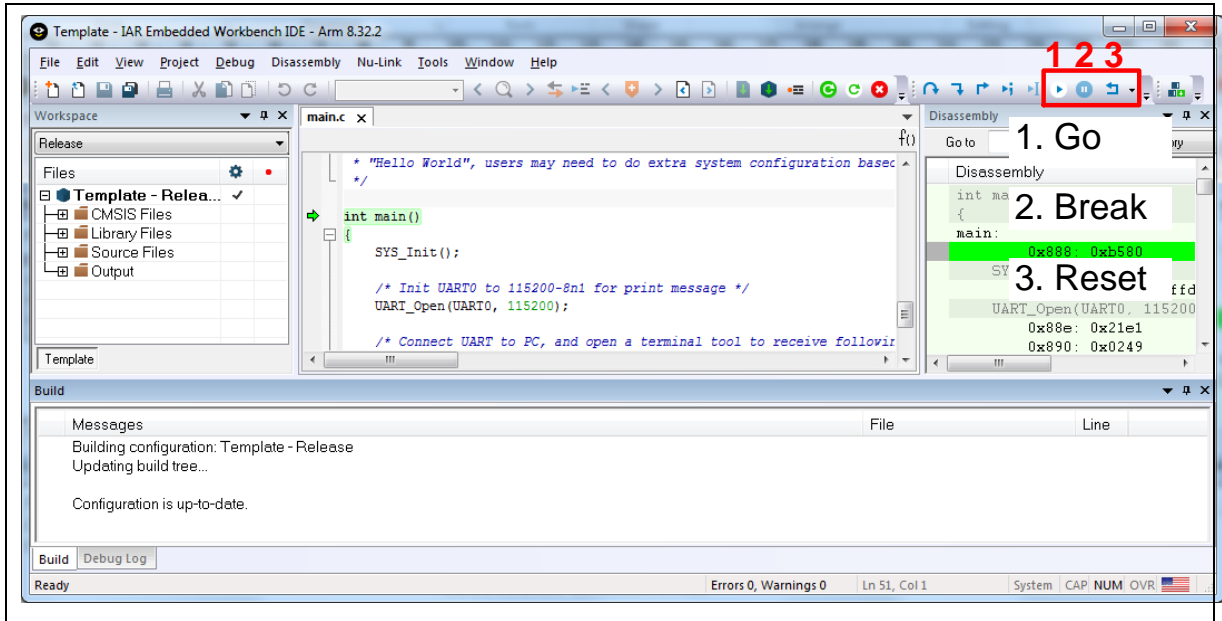

Figure 4-17 IAR EWARM Debug Mode
- Figure 4-17 shows the debug mode under IAR EWARN. Click “Go” and the debug message will be printed out as shown in Figure 4-18. User can debug the project under debug mode by checking source code, assembly language, peripherals’ registers, and setting breakpoint, step run, value monitor, etc.